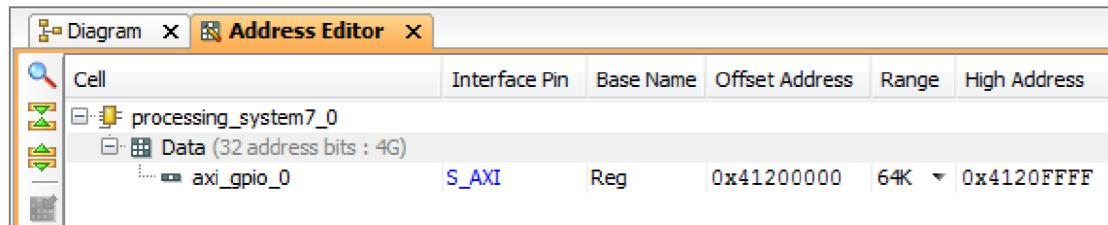

Figure 1.22: Address Editor Tab
- (i) Select the Address Editor tab from the top of the Workspace window, as shown in Figure 1.22, and expand the Data group.